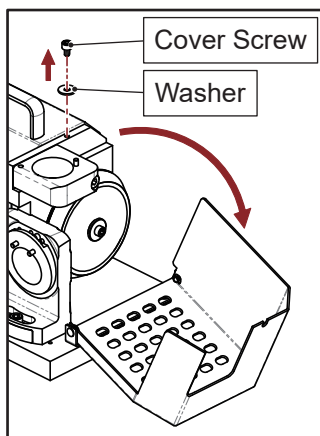

Fig. 10-2
- ③ Loosen the screw from the grinding wheel cover to open the cover. (Fig. 10.2)